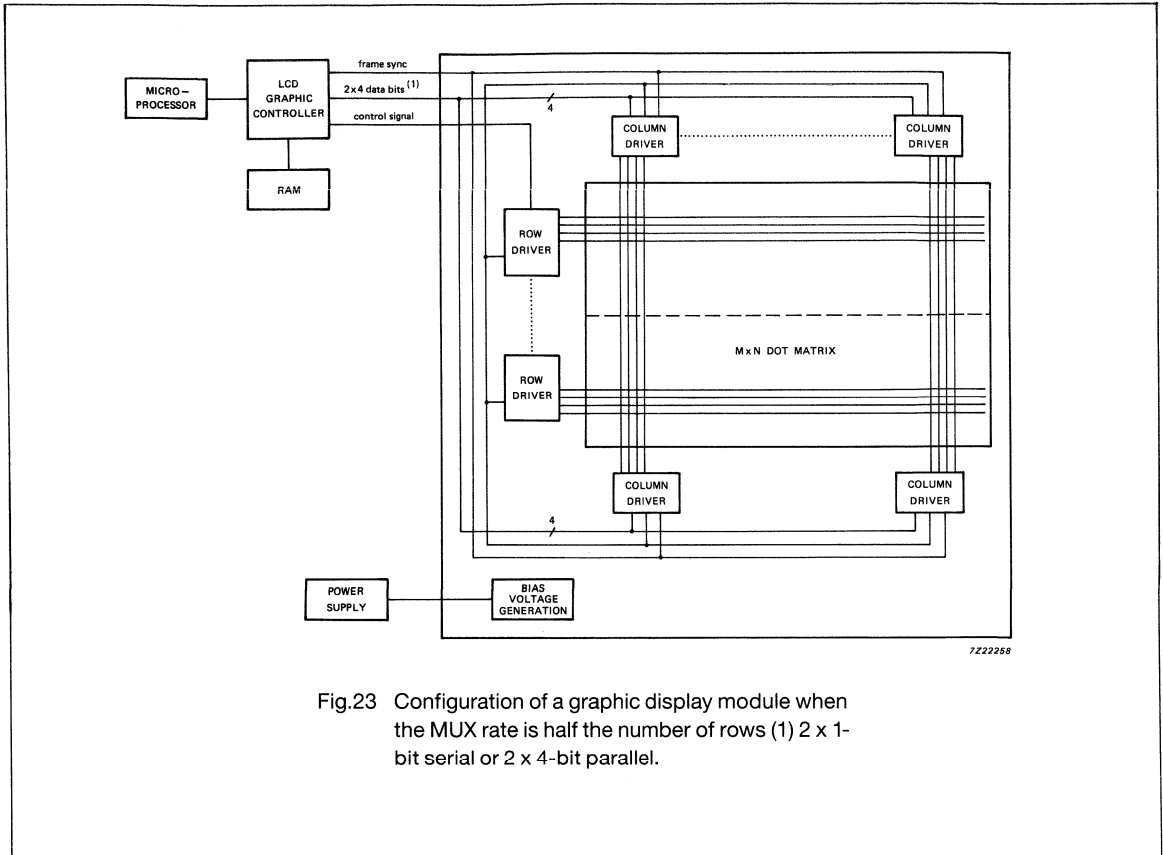

Fig.23 Configuration of a graphic display module when the MUX rate is half the number of rows (1) 2 x 1-bit serial or 2 x 4-bit parallel.
b) module with a MUX rate equal to half the number of rows (Fig. 23)	2 x 1-bit serial: used for displays with a relatively small number of dots; 2 x 4-bit parallel: used for displays with a larger number of dots.